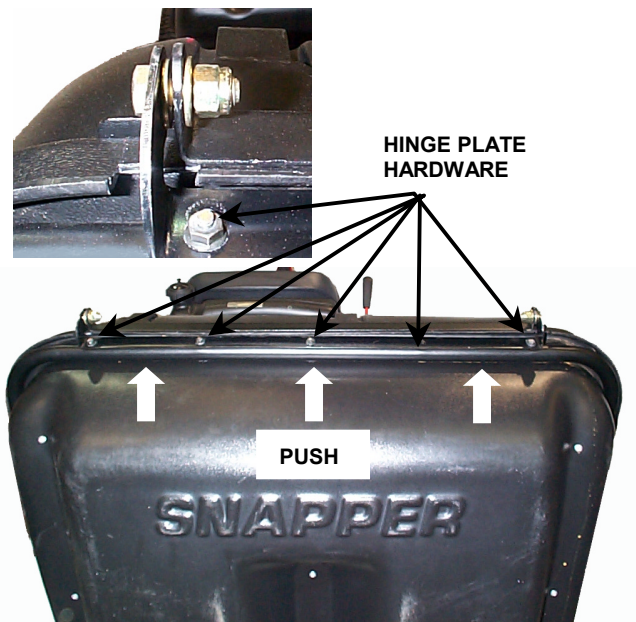

FIGURE 1.10
G. If hinge adjustment is required, loosen hinge plate hardware. For a tighter seal, push top of rear cover frame firmly against the Front Cover Assembly. Tighten hinge plate hardware securely. See Figure 1.10.